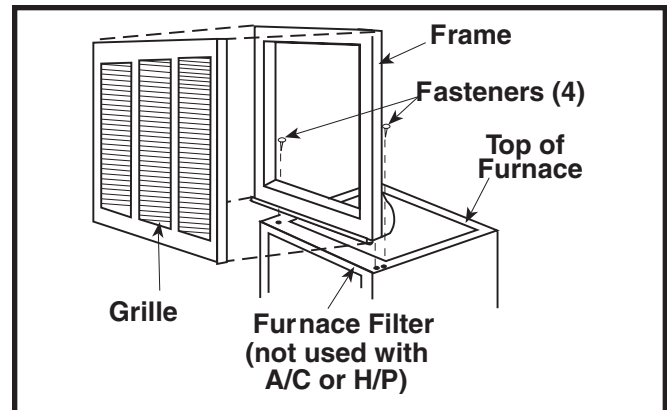

Figure 2. Grille Support Frame & Grille Assembly
- Downflow alcove installations: the grille (with frame provided) may be attached to the top of the furnace and all paneling and trim flushed to it. This installation provides an access door for future installation of Nortek air conditioning or heat pump coils on top of the furnace. See Figure 2 \(page 5\).
A return air grille and frame assembly (Figure 2 (page 5)) is available for use in unducted return air installations. In downflow alcove installations, the grille and frame assembly may be mounted directly to the top of the furnace. In closet installations, a wall mount grille is available for attachment to a door or wall.